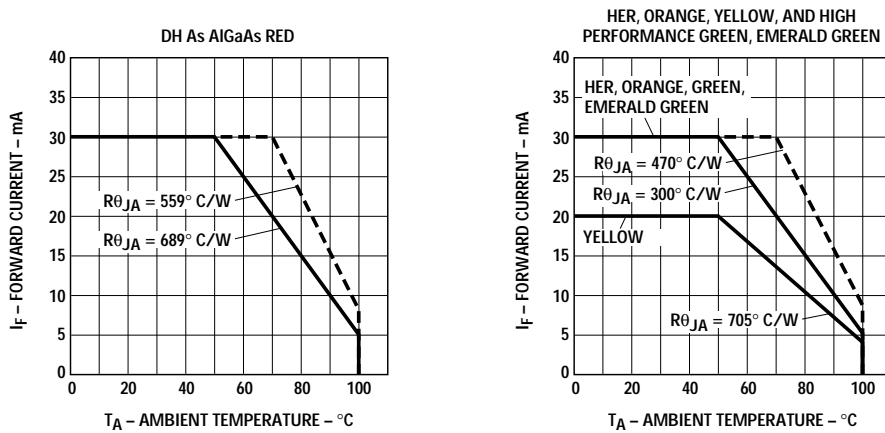

Figure 5. Maximum forward dc current vs. ambient temperature. Derating based on TjMAX = 110°C.
1. See Figure 5 for maximum current derating vs. ambient temperature.